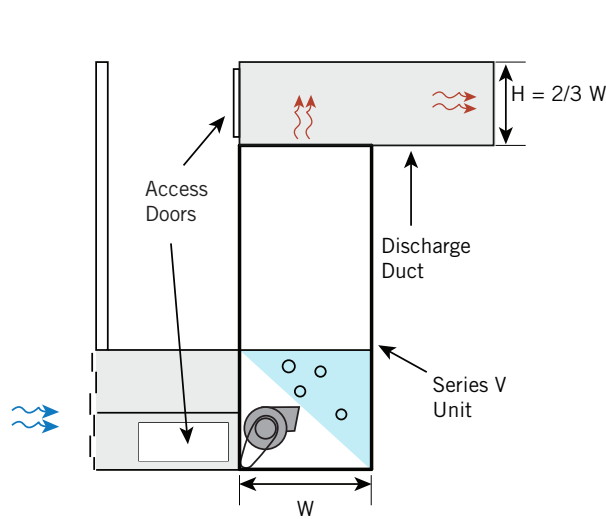

Figure 13a. Elevation Side View of Ducted Unit Enclosure
- Turns in intake or discharge ducts should be avoided. Where turns must be used, velocities should be minimized in the vicinity of the turn. Turns in discharge ducting should be designed in accordance with the "2/3's rule" shown in Figure 13a and 13b.